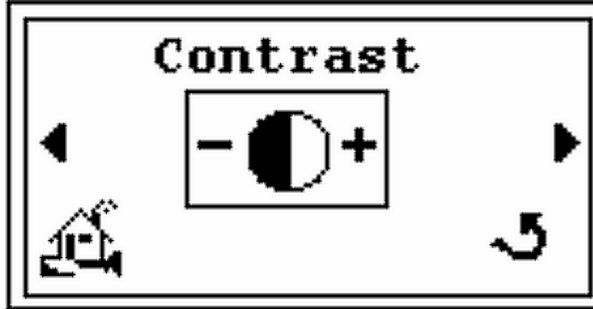

Figure 2-47 Contrast - Initial Screen
4. Press the  and the *Contrast* screen appears (Figure 2-47).